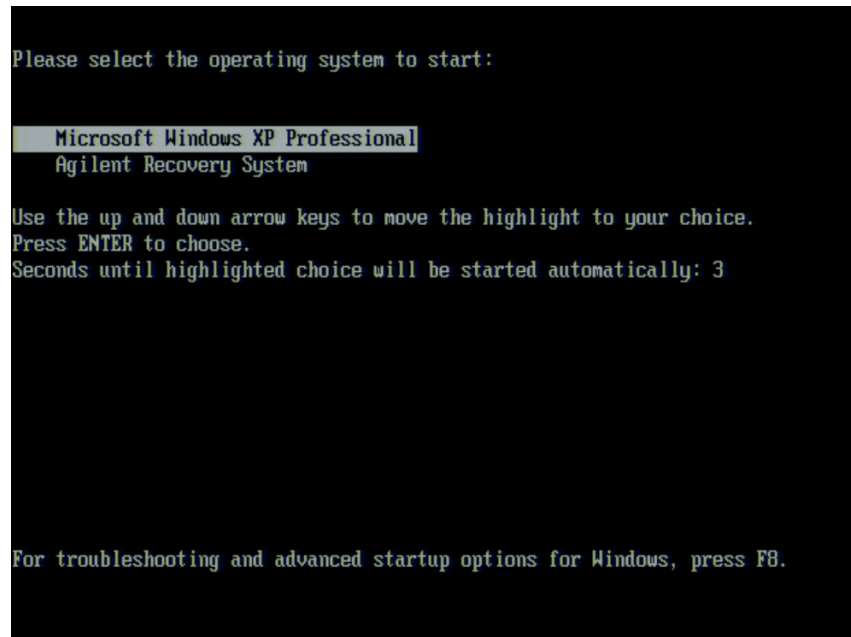

**Figure 6** System start up screen in Windows Vista Business (1/2)
**Step 2.** The screen as shown in the Figure 6 appears. Select **Microsoft Windows XP Professional** and press **[Enter]**.